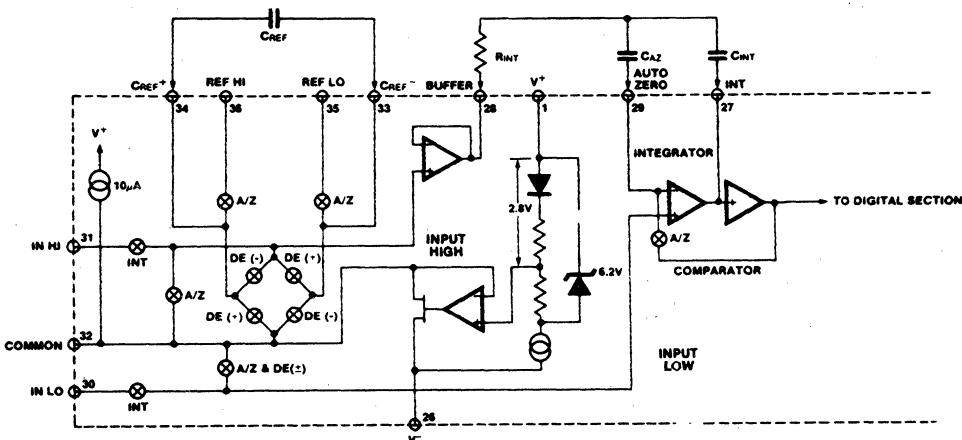
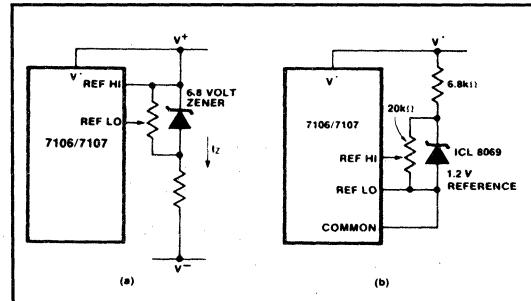

Figure 4: Analog Section of 7106/7107
Figure 5: Using an External Reference
NOTES: 3. Unless otherwise noted, specifications apply to both the 7106 and 7107 at $T_A = 25^\circ C$, $f_{clock} = 48kHz$. 7106 is tested in the circuit of Figure 4. 7107 is tested in the circuit of Figure 5.
Figure 4 shows the Analog Section for the ICL7106 and 7107. Each measurement cycle is divided into three phases. They are (1) auto-zero (A/Z), (2) signal integrate (INT) and (3) de-integrate (DE).
The 7106, with its negligible dissipation, suffers from none of these problems. In either case, an external reference can easily be added, as shown in Figure 5.